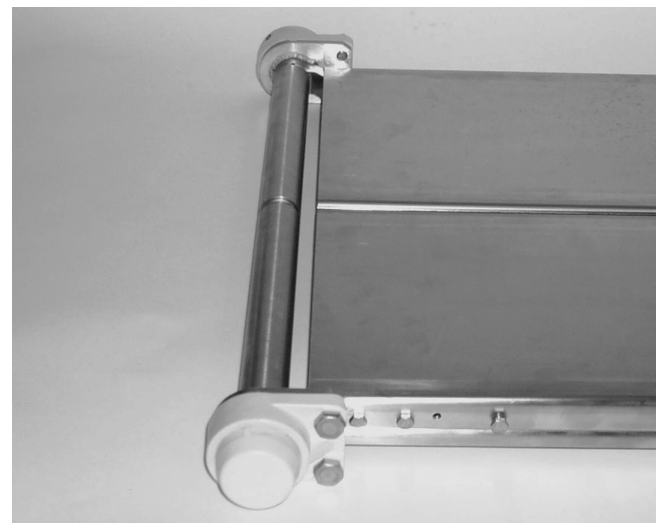

Figure 6
2. Compress tension end (Figure 6). Refer to steps 4 and 5 under the “Belt Removal for Conveyor Without Gearmotor Mounting Package or Stands” on page 9.